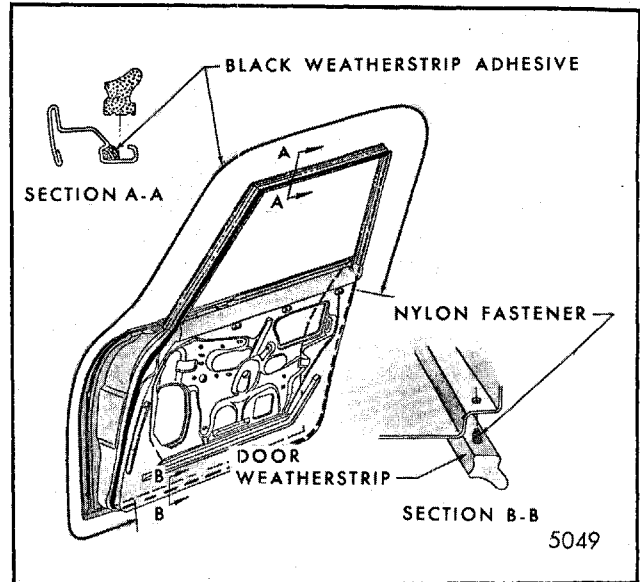
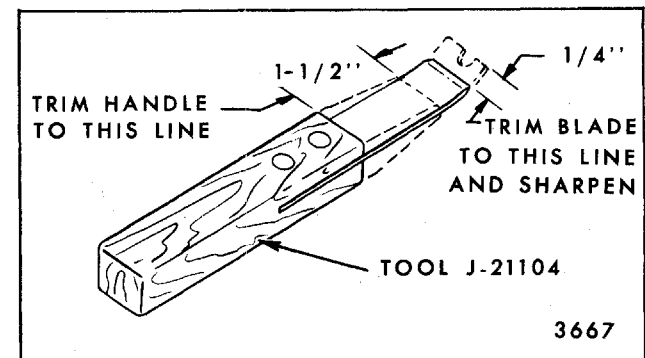
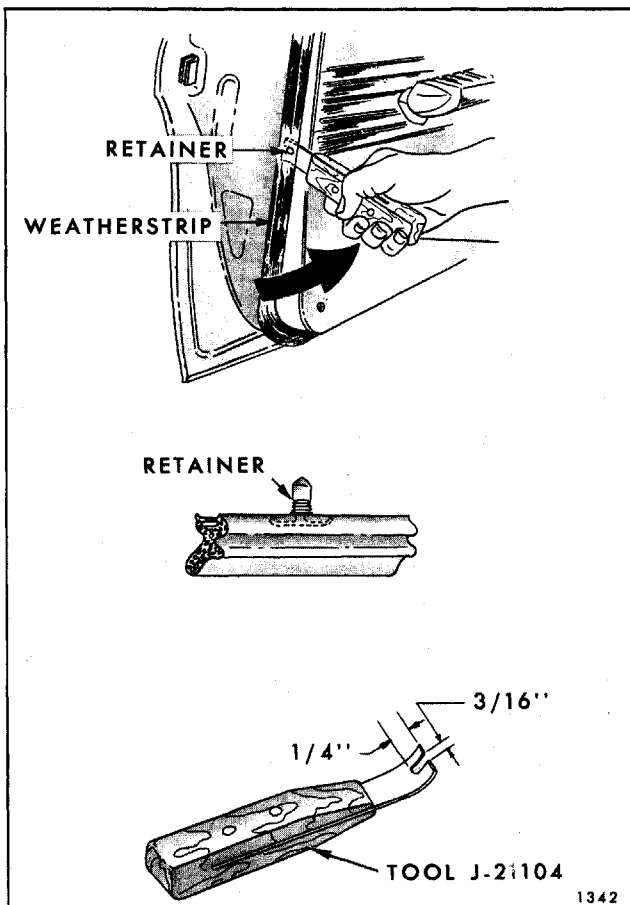

Fig. 5-33-Door Weatherstrip - Closed Styles
Fig. 5-35-Weatherstrip Removal Tool
Fig. 5-32-Door Weatherstrip Removal
Both the front and rear doors use nylon fasteners to retain the door weatherstrips. The fasteners are a component part of the weatherstrip and secure the weatherstrip to the door by engaging piercings in the door panels. The serrations on the fastener also seal the openings from water entry (Fig. 5-32). On closed styles, nylon fasteners are used below the beltline only. Weatherstrip adhesive retains the weatherstrip around the door upper frame (Fig. 5-33). On all styles, in addition to the fastener, weatherstrip adhesive is used at the beltline and down the front door hinge pillar.
To disengage nylon fasteners from door panel piercings use tool J- 21104 or equivalent (Fig. 5-32). This tool permits removal of the weatherstrip without damaging the serrations on the fasteners so that the weatherstrip can be reinstalled if desired. Although a replacement door weatherstrip will include nylon fasteners, individual fasteners are also available as service parts.
2. Use a flat-bladed tool to break cement bond between door and weatherstrip. A tool applicable to this usage can be fabricated from tool J-21104 or equivalent (Fig. 5-35). Weatherstrip adhesive is used for a distance of 7" to 9" on door lock pillar and the entire length of the front door hinge pillar (Fig. 5-33). In addition, on closed styles, weatherstrip is retained by weatherstrip adhesive completely around door upper frame. A suitable release agent (Kent Special Release Agent or equivalent) will aid in breaking the weatherstrip adhesive bond.
3. On closed styles, apply black weatherstrip adhesive around door upper frame (Fig. 5-33).
2. Beginning at the front body hinge pillar, carefully pull weatherstrip out of retainer while breaking sealer bond between weatherstrip and retainer with a flat-bladed tool. A tool for this use can be fabricated from tool J-21104 or equivalent as shown in Figure 5-35. A suitable release agent (Kent Special Release Agent or equivalent) will aid in breaking the weatherstrip adhesive bond.